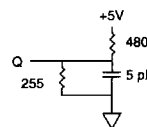

Fig. 2 OUTPUT LOAD EQUIVALENT
- t_{HZCE} and t_{HZWE} are specified with CL = 5 pF as in Fig. 2. Transition is measured ± 500mV typical from steady state voltage, allowing for actual tester RC time constant.
- Chip enable (CE) and write enable (WE) can initiate and terminate a WRITE cycle.